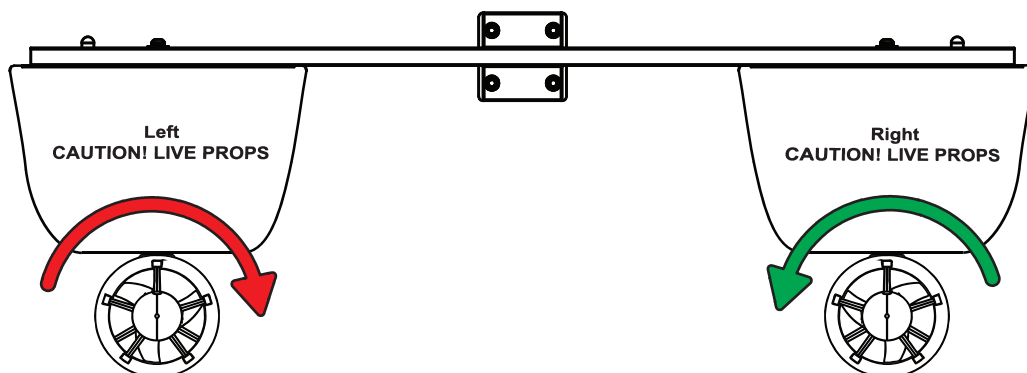

Figure 23: Hydroner™ RCV Prop Rotation
- Motor must rotate clockwise(CW) (Figure 23)
- Motor must rotate counter-clockwise(CCW) (Figure 23)